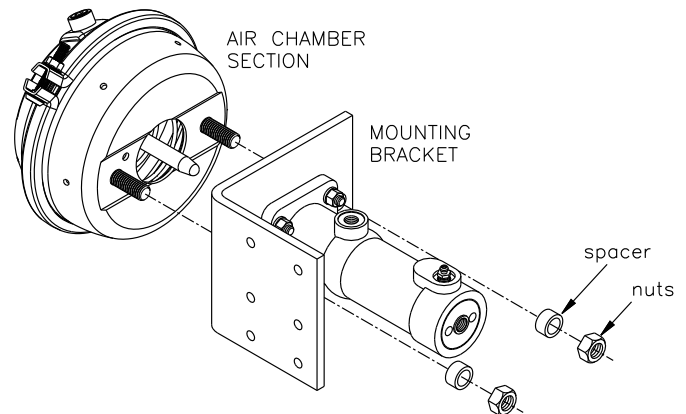

FIGURE 1
(Refer to Figures 1 and 2)
2. Separate air chamber section from mounting bracket by removing two nuts and two spacers (Figure 1). **NOTE: Earlier models use lock washers in place of spacers.**
(Refer to Figures 1, 2, and 3)
3. Attach air chamber section to mounting bracket using two spacers and two nuts (Figure 1). Torque nuts 97.6-105.8 N·m (72-78 lb·ft). **NOTE: Earlier models use lock washers in place of spacers.**